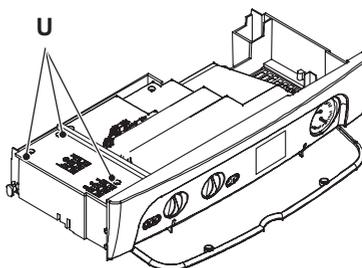

Fig. 6.12
- Loosen the screws U and remove the service panel (Fig. 6.12).